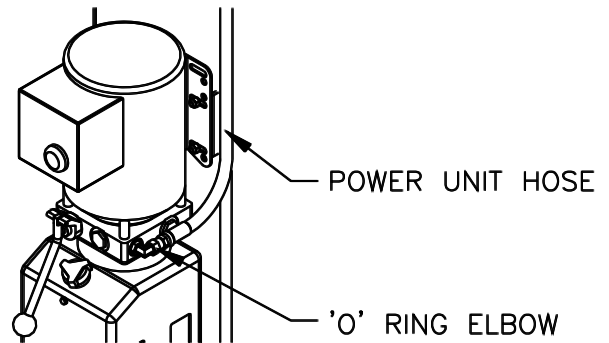

Fig 9b Power Unit Connection
- 24) Thread 9/16-18 O-ring elbow (*in hardware box*) into power unit. Attach free end of power unit hose to elbow. See **Fig 9b**. CAUTION do not damage rubber O-ring.